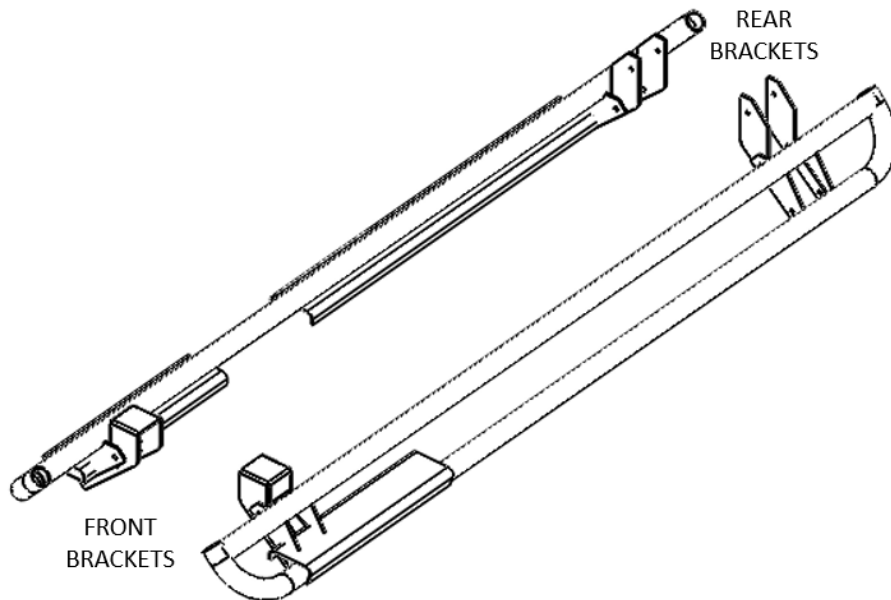

Figure 2. Correct orientation of front and rear brackets assembled.
2. Bolt the rear nerf bar brackets to the nerf bar assembly, as shown in Figure 2.